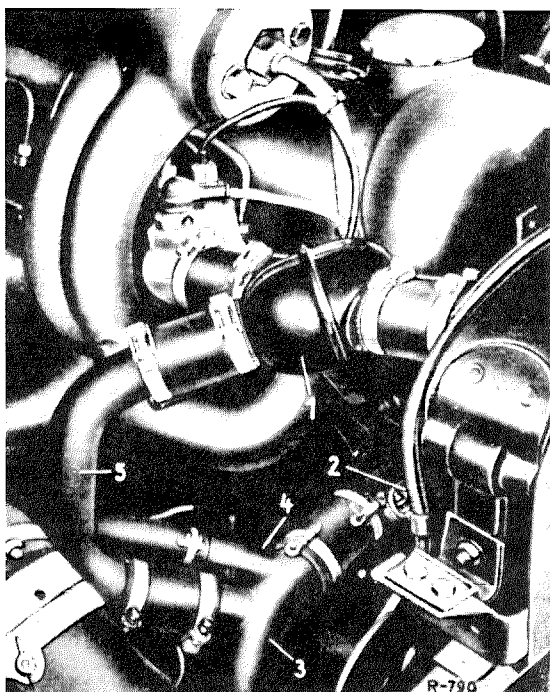

Fig. 50-6/4
The cooling water line from the radiator to the engine (3) must be replaced by the cooling water line Part No. 636 200 12 53 (see Fig. 50-6/4). When this line is installed, the diameter of the pipe socket of the line is 28 mm. The thermostat is connected to the cooling water system by two hoses and the new by-pass line (5) Part No. 635 501 00 24 which has to be installed.
The arrangement of the wax thermostat with by-pass control (1) and the by-pass line (5) is shown in Fig. 50-6/4. The subsequent installation requires the cooling water line (3) Part No. 121 500 14 91 from the radiator to the engine with a diameter of the connection for the by-pass line of 32 mm and the by-pass line (5) Part No. 121 500 15 91.